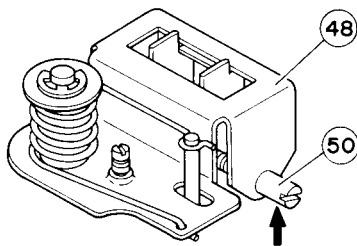
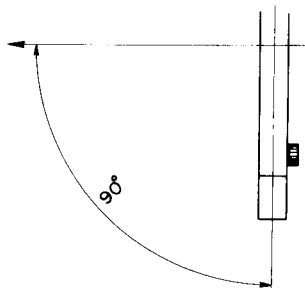

Figure 22
Figure 23
- (1) Remove the cabinet top according to "1. Removal of Cabinet Top" (page 4).
- (2) Turn the adjuster "50" described in Figure 22 so that the tonearm will be mounted at right angles with its moving direction (Figure 23).
- (3) After this adjustment, make sure to apply "4. No Tracking Error Adjustment" (page 9).